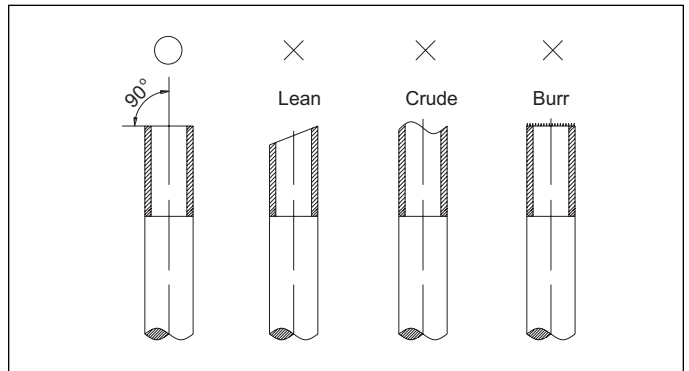

Figure 24. Cutting Piping
4. Cut the selected pipes with a pipe cutter. Make the cuts flat and smooth as illustrated in "Figure 24. Cutting Piping".